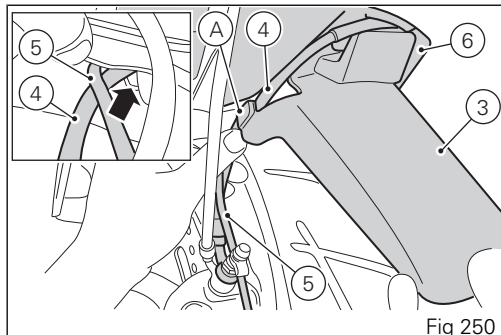

Fig 250
Set front mudguard half kit (3) on front mudguard (6) routing front brake hose (4) and front phonic wheel cable (5) as indicated in figure (Fig 250).